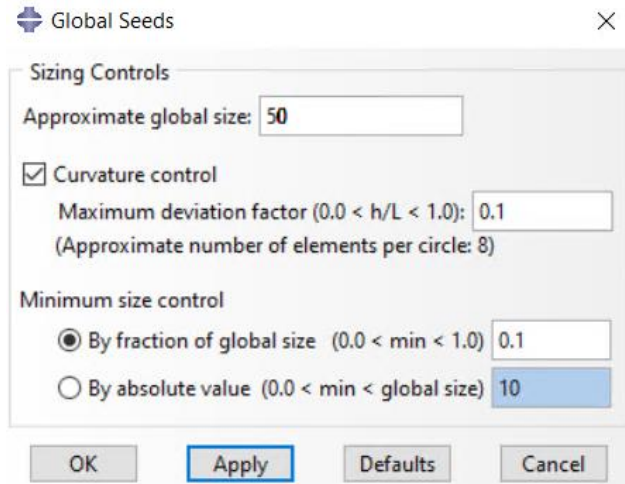

Figure 1-26 – The Global Seeds dialog box.
2. The **Global Seeds** dialog box appears, Figure 1-26. The default global element size is based on the size of the part.